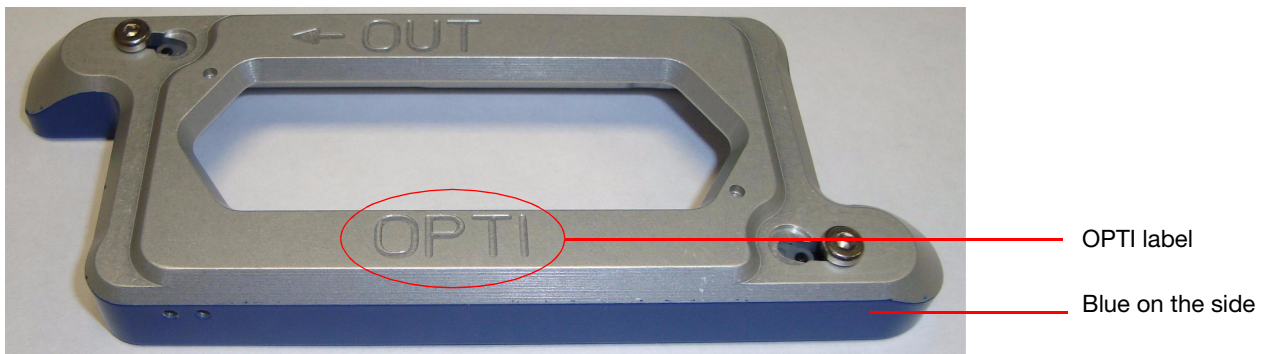

Figure 10 The SOLiD™ Opti Slide Carrier is labeled OPTI and painted blue on the side.
2. Insert a new slide into the SOLiD™ Opti Slide Carrier (see Figure 10):
- ⓘ **IMPORTANT!** The SOLiD™ Opti Slide Carrier is painted blue across the side and is labeled OPTI on the surface (Figure 10). If you are using the SOLiD™ Opti reagent strips for sequencing, you must use the SOLiD™ Opti Slide Carrier. Using a different slide carrier may lead to run failure.